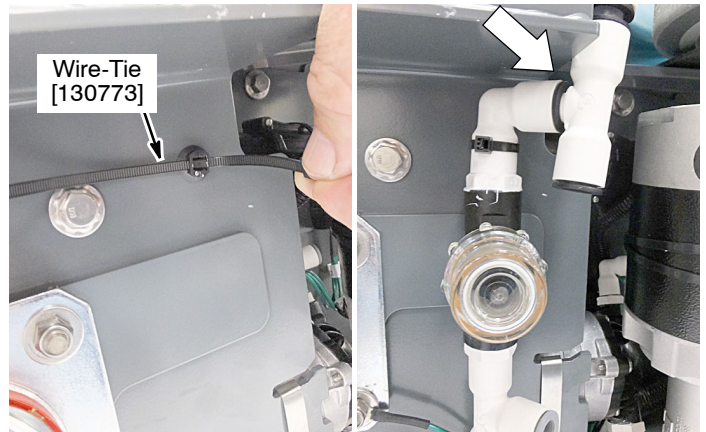

Fig. 23
- Using new wire-tie, reinstall the in-line filter assembly to T-fitting as shown (Figure 23).